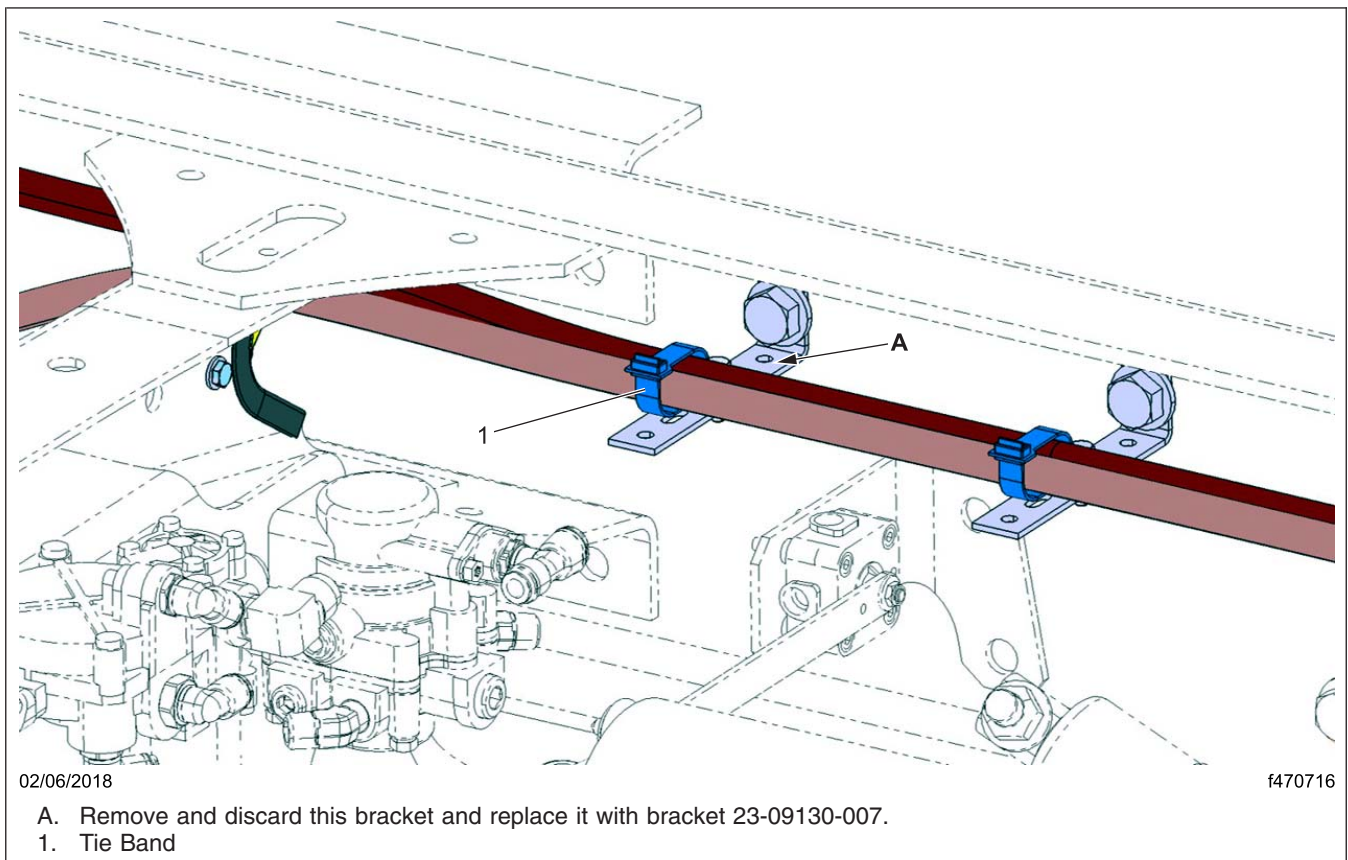

Fig. 19, Replacing Bracket 06-09782-000, Dual Height Control Valve
1. Remove the tie band around the fuel lines. See Fig. 19, Item 1.
2. Remove and discard the indicated bracket and install new bracket 23-09130-007. See Fig. 19, Ref. A, for the location of the bracket.